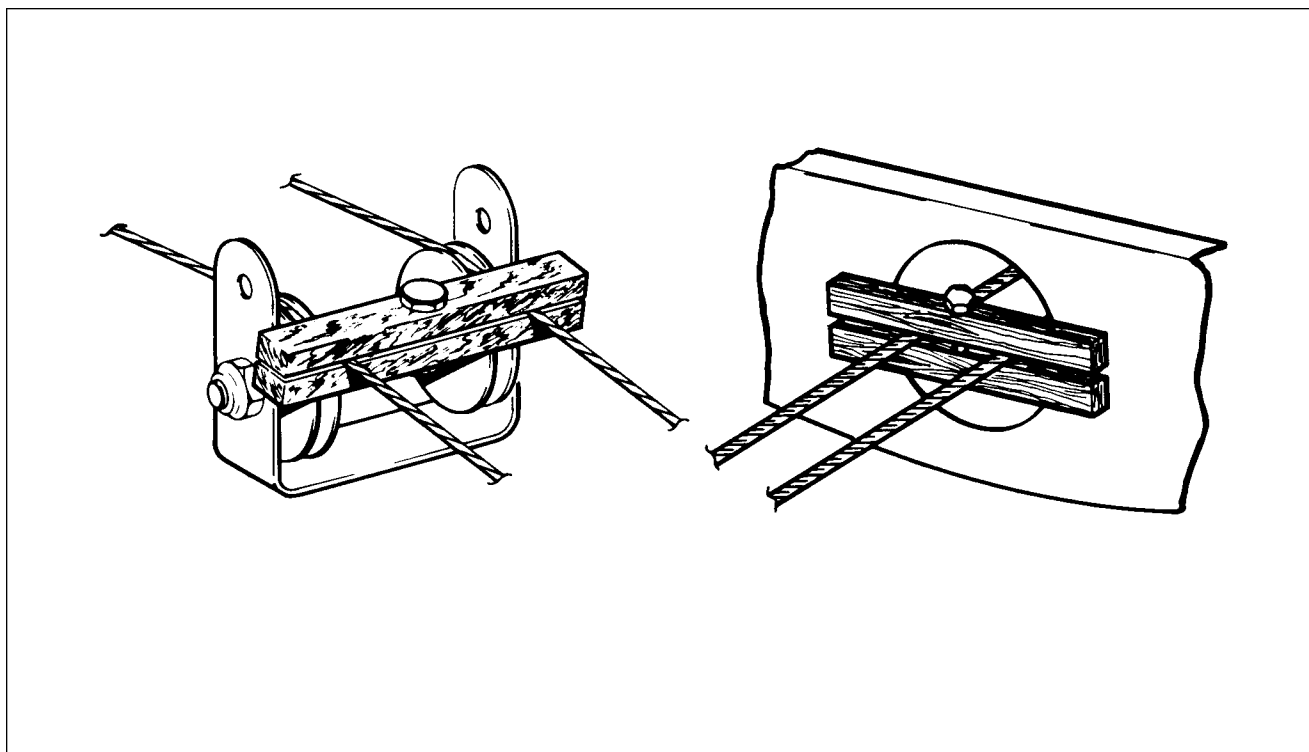
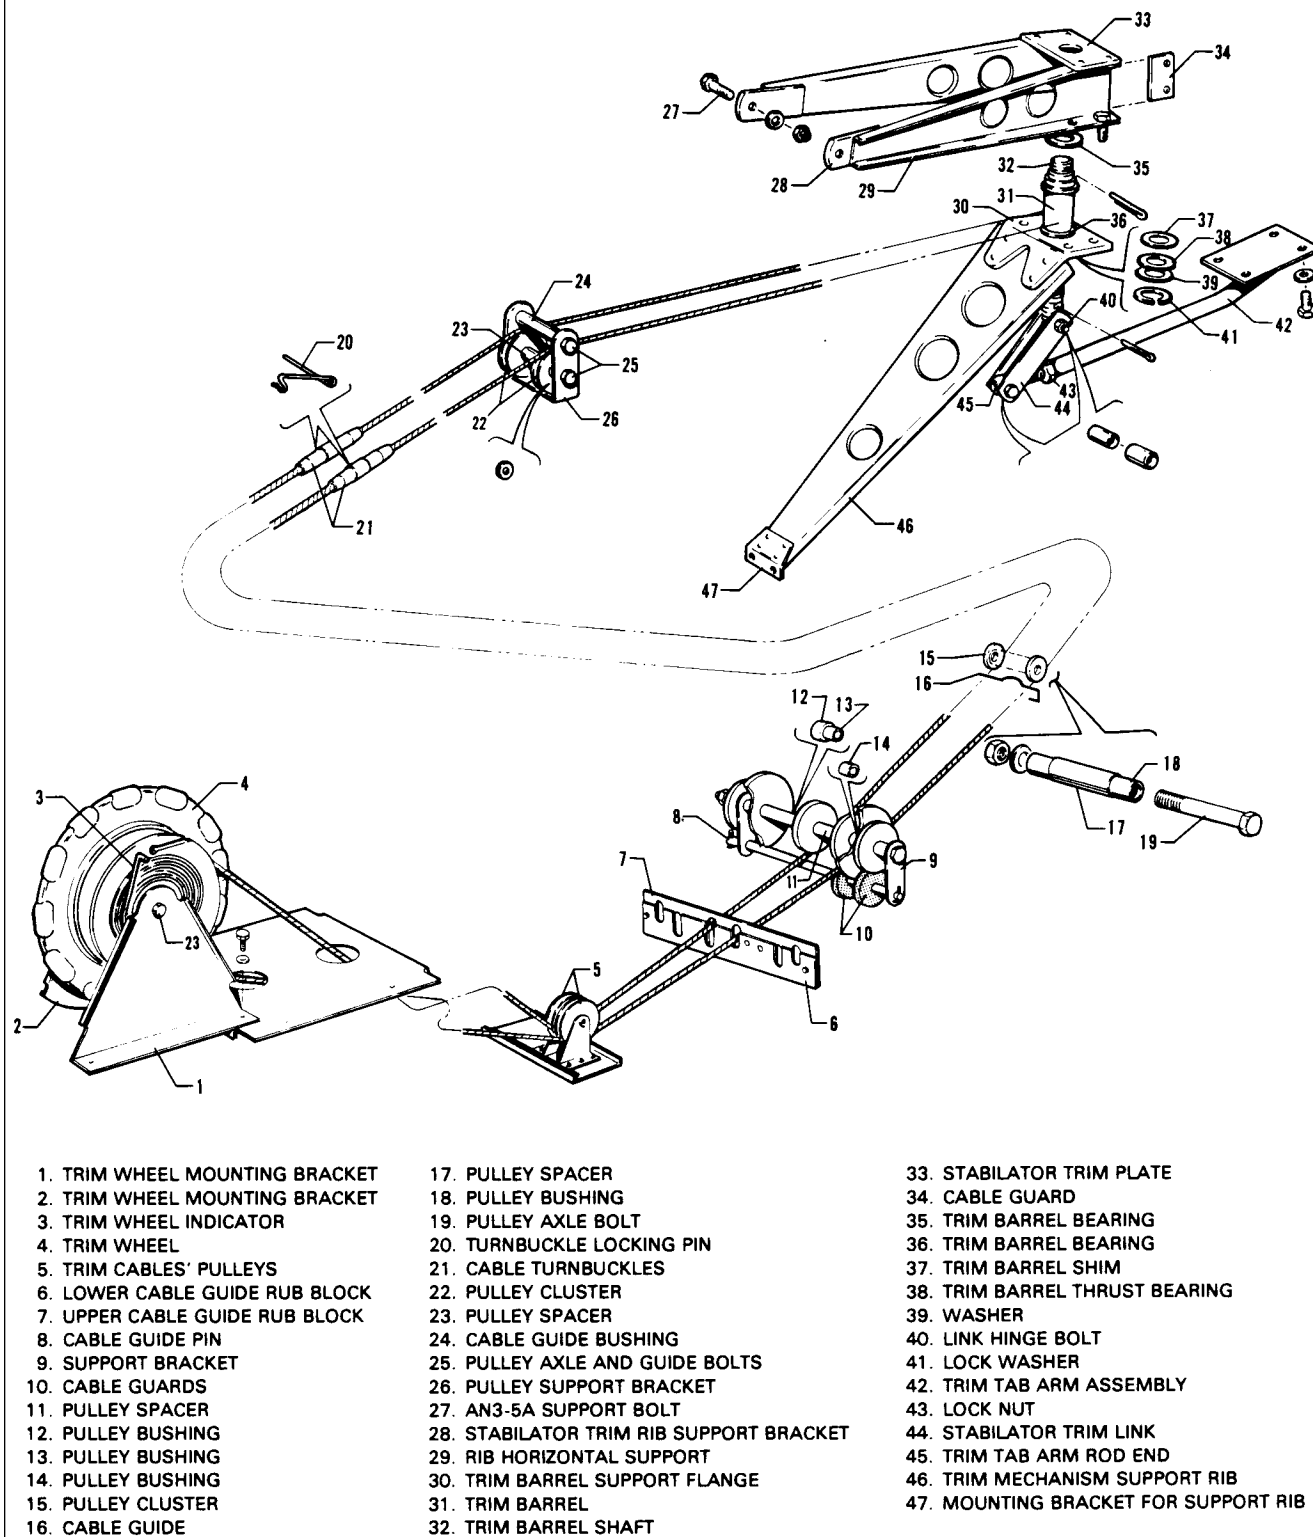

Figure 5-7. Methods of Securing Trim Cables
Figure 5-8. Stabilator Trim Control
#### 5-18. REMOVAL OF STABILATOR TRIM ASSEMBLY. (FORWARD.) (Refer to Figure 5-8.)
- b. If the aft trim cable (12) is not to be removed, block the cables at the pulleys (13) in the upper aft section of the fuselage to prevent them from unwrapping from the trim drum. (Refer to Figure 5-7.)
- c. Loosen the cables if the trim control wheel (1) is to be removed or disconnect if the cables are also to be removed. Do this at the trim cable turnbuckles (10 and 11) in the aft section of the fuselage.
- d. The control wheel (1) with drum (3) may be removed by the following procedure:
2. The wheel assembly may be removed from its mounting brackets by removing nut, washer and bolt (7) that secures the wheel between the brackets. Draw the wheel from the brackets. Use caution not to damage trim indicator wire(2).
3. Unwrap the left cable (9) from the drum.
4. The wheel and drum are joined by a push fit, separate these two items with their center bushing and unwrap the right cable (8).
**5-19. INSTALLATION OF STABILATOR TRIM ASSEMBLY. (FORWARD) (Refer to Figure 5-8.)**
**5-20 REMOVAL OF STABILATOR TRIM ASSEMBLY. (AFT ) (Refer to Figure 5-8.)**
- b. Block the trim cables at the first set of pulleys (33) forward of the cable turnbuckles (10 and 11) in the aft section of the fuselage by a method shown in Figure 5-7.
- c. Disconnect the cable (12) at the turnbuckles (10 and 11) in the aft section of the fuselage.
- e. Disconnect the link (25) between the trim screw (23) and the trim control arm (28) by removing the nut, washer and bolt (24) that connects the link to the screw.
- f. Remove the cotter pin from the top of the screw (23), and turn the screw down and out of the barrel (20).
- g. Remove the snap ring (32), washer (31) and thrust washer (30) from the bottom of the barrel.
- h. Disconnect the diagonal rib (22) from the horizontal rib (16) that supports the trim assembly by removing the four attaching nuts, washers and bolts.
- i. Draw the trim cable (12) from the fuselage.
**5-21. INSTALLATION OF STABILATOR TRIM ASSEMBLY. (AFT.) (Refer to Figure 5-8.)**
- a. Wrap the trim barrel (20) by first laying the center (as measured equally from each end to the center of the cable) of the trim cable (12) in the slot of the barrel, Bring the upper cable through the diagonal slot in the flange at the upper end of the barrel and wrap down in a counterclockwise direction. Bring the lower cable through the diagonal slot in the lower end of the barrel and wrap up in a clockwise direction. Wrap the cable as evenly as possible to obtain 23 wraps on the barrel as viewed from the side opposite the slot and with the cables extending out from the slotted side.
- c. Ascertain that the barrel bushings (19 and 29) are installed in the rib plate (17) and clip (21).
- d. Lubricate the bushings and install the trim barrel (20) in the bushings between the two support ribs. Attach the bottom diagonal rib (22) to horizontal rib (16) and secure with bolt, washers and nuts.
- e. Install the thrust washer (30), washer (31) and snap ring (32) on the lower end of the barrel.
- f. Install the trim screw (23) in the barrel (20) and secure each end with a cotter pin through the screw.
**5-22. RIGGING AND ADJUSTMENT OF STABILATOR TRIM. (Refer to Figure 5-8.)**